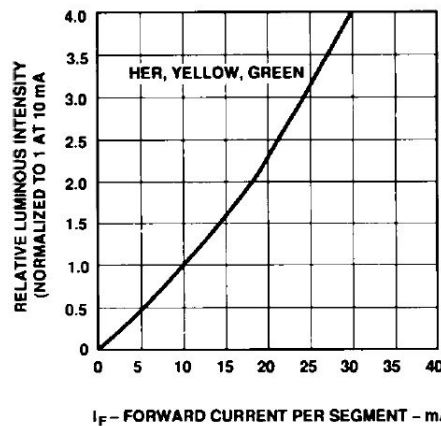

Figure 6. Relative Luminous Intensity vs. DC Forward Current.
- See Figure 6 to establish pulsed conditions.